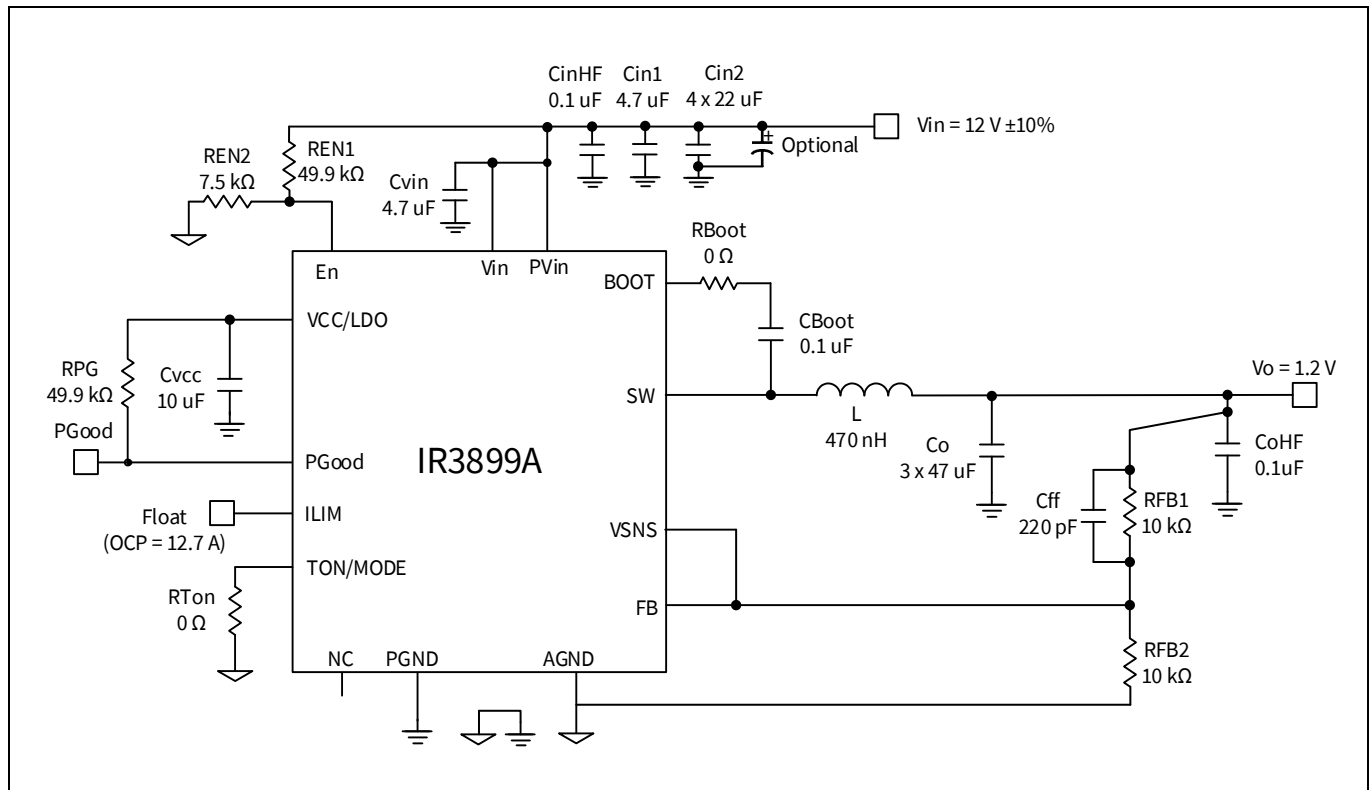

Figure 13 Application diagram of IR3899A. Pvin = 12 V, Vo = 1.2 V, Io = 9 A, fsw = 600 kHz.
In this section, an example is used to demonstrate how to design a buck regulator with the IR3899A. The application circuit is shown in **Figure 13**. The design specifications are given below:
- To implement the V_o sensing, the following design guidelines should be followed, as illustrated in Figure 13.